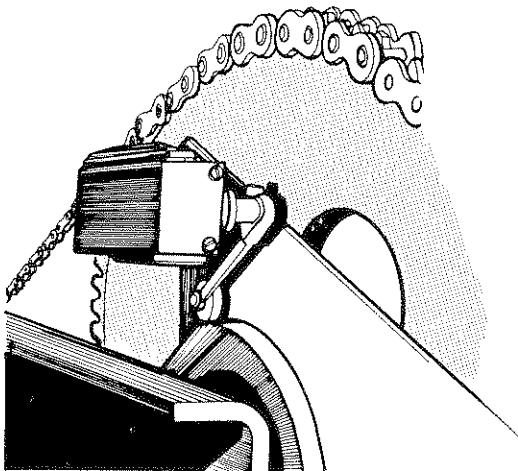

Fig. 44
6. Check stopping position of switch arm roller on cam. It should be on the high part of the cam, see **Fig. 44**.
10. Repeat steps 2 thru 5 and step 8 until the switch arm roller is on the high part of the cam, see **Fig. 44**.